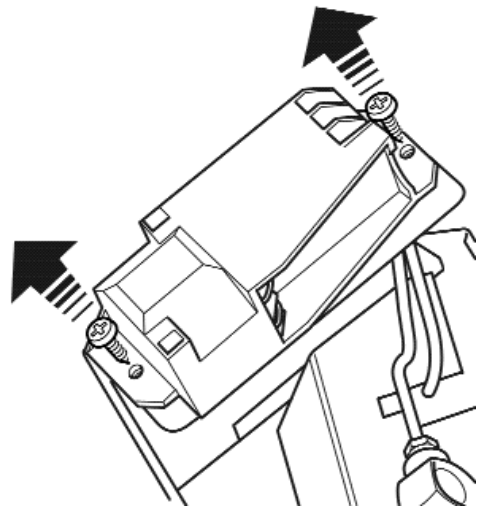

Figure 29. Removal of electronic spark generator
5. Unscrew the two fixing screws that attach the generator unit to the support bracket. The igniter generator can now be removed (See figure 29).